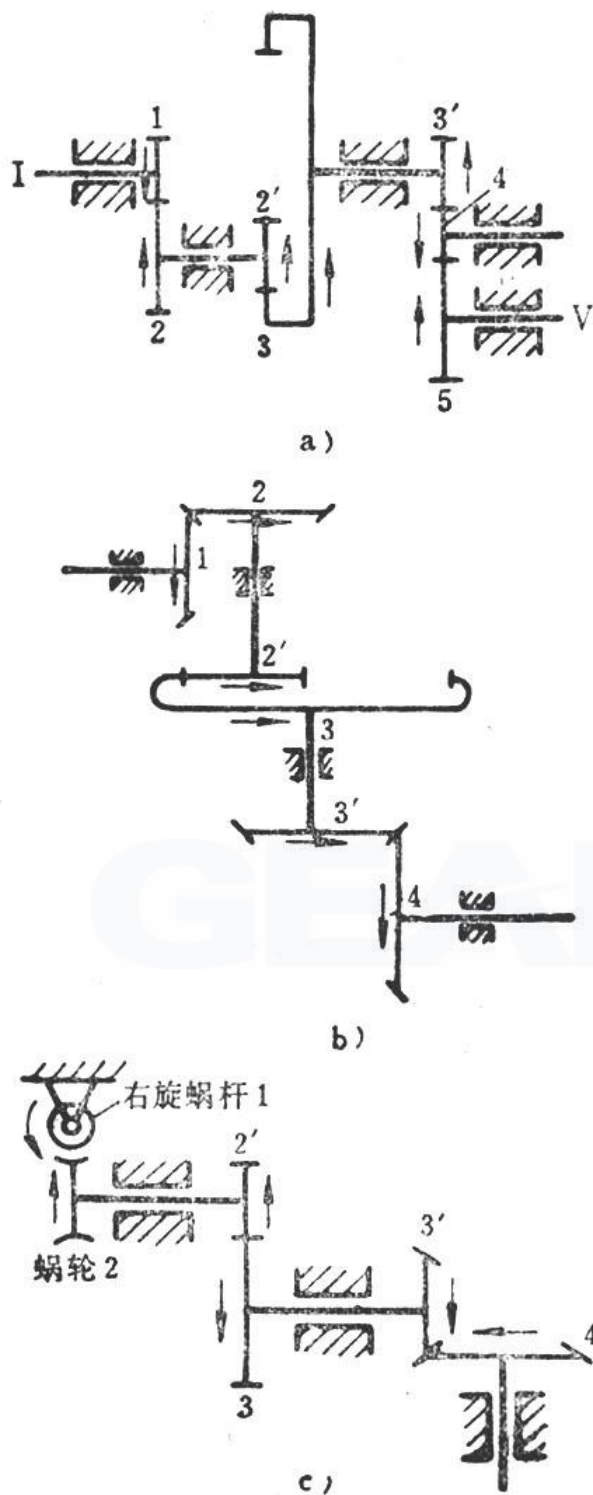

图 8-2
To conform the symbol “+” and “-” of the transmission ratio, two kinds of situation need to be considered: 1) for gear train of plane fixed axle, the symbol is determined by  $(-1)^m$ ,  $m$ , here, refers to the number of gear pair in the gear train (Figure 8-2a). 2) For gear train of space fixed axle, the symbol of transmission ratio cannot be determined by the formula of  $(-1)^m$ . Rather, it is determined by the vector direction marked on the motion figure to figure out the change direction of the two gears (Figure 8-2 b, c). Gear train of plane fixed axle, of cause, can also be confirmed by velocity vector marked method.
(2) For gear train of space fixed axle with unparallel axial line, there is no “+” or “-” symbol before the value of transmission ratio. But the velocity vector must be marked on its motion figure (Figure 8-2 c).